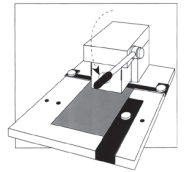

Fig. 2
- 3 - Pull the operating lever down until you hear the "snap" of the card being cut, then allow the lever to return to the "up" position. [Figure 2]